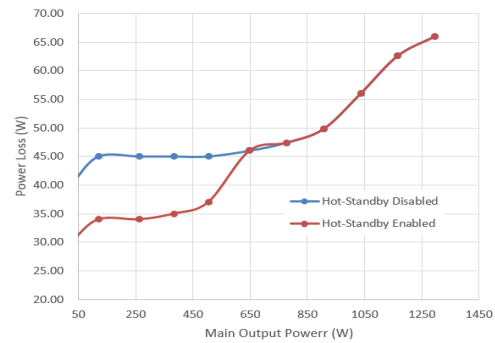

Figure 17. PSU power losses with/without hot-standby mode
*Figure 17* shows the achievable power loss savings when using the hot-standby mode operation. A total power loss reduction of 22% is achievable.